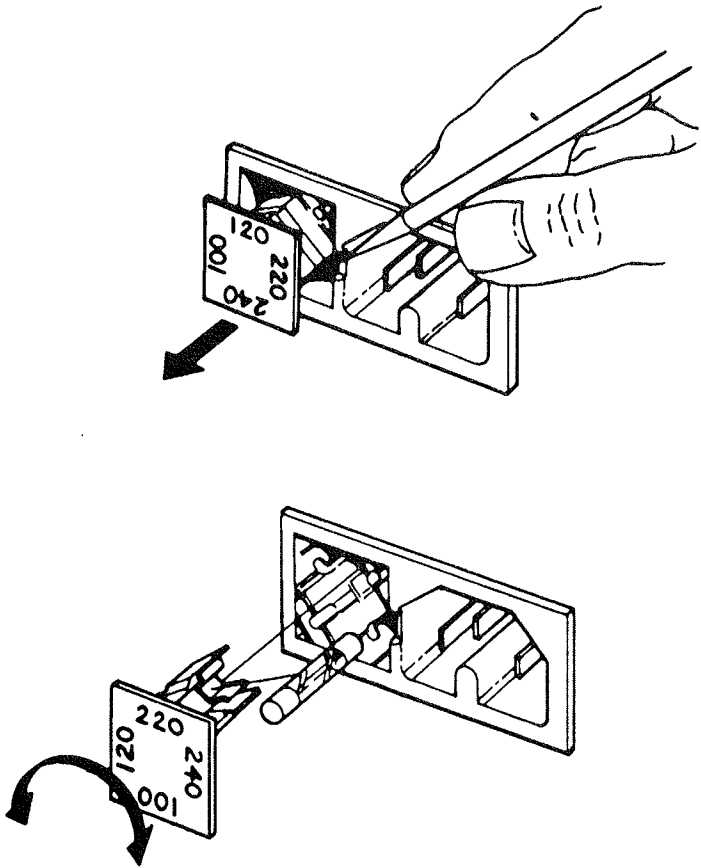

Figure 3-8. Input Line Voltage Adapter
- (a) Insert a sharp probe into the middle of the connector and pry out the fuse holder as Figure 3-8 illustrates. The number at the top of the holder is the voltage